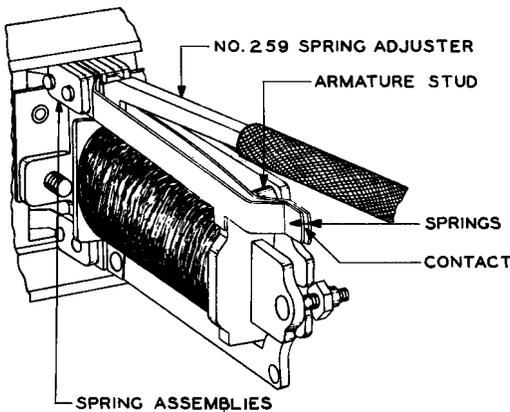

Fig. 19 - Method of Adjusting for Spring Tension
(1) Use the No. 259 spring adjuster to adjust the springs for these requirements. Place the adjuster on the front end of the spring, but back of the contact and armature stud, and then slide it back to a point about 1/4-inch from where the spring leaves the spring assembly as shown in Fig. 19. Adjust the spring at this point as required, exercising care not to disturb adjacent springs.
(2) Normally straight springs that have been adjusted should have no sharp bends due to adjustment. A gradual bow is permissible.
(3) In tensioning springs exercise care not to deform the armature hinge plate.